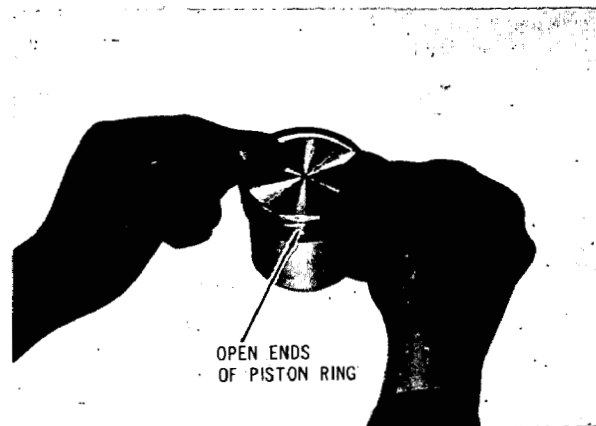

Fig. 6-3-10
• PISTON RING (See Fig. 6-3-10)
If an expander tool is not available, install rings by placing the open end of the ring on first land of piston. Spread ring only far enough to slip over piston and into correct groove, being careful not to distort ring. (Fig. 6-3-10)